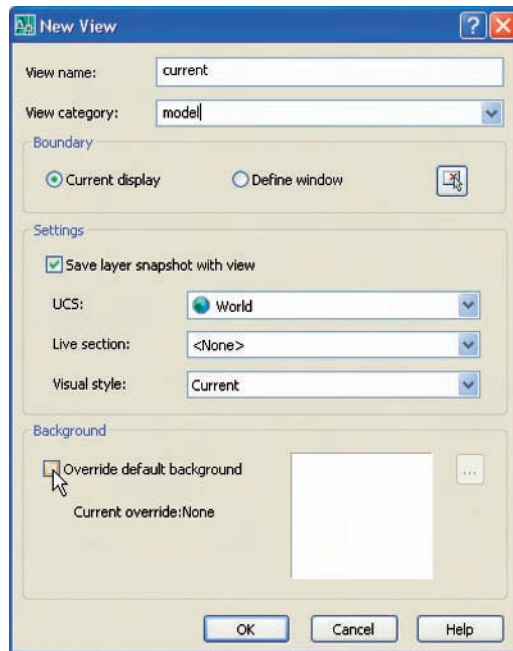
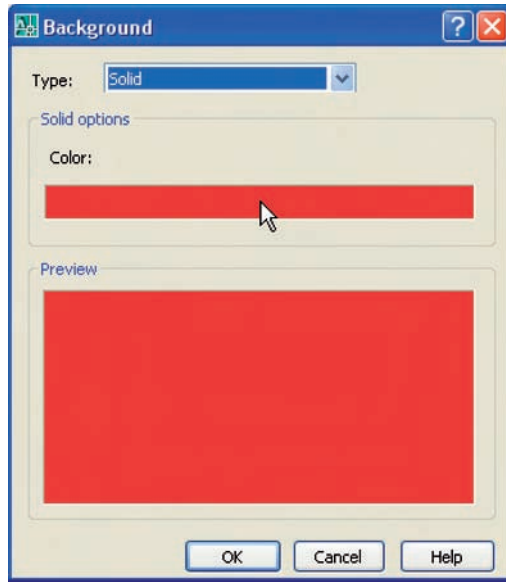

Fig. 16.9 The **New View** dialog
Fig. 16.10 The **Background** dialog
3. The **New View** dialog (Fig. 16.9) appears. *Enter current* in the **View name** field and **model** in the **View category** field. Then *click* the **Override default background** check box. The **Background** dialog appears (Fig. 16.10).